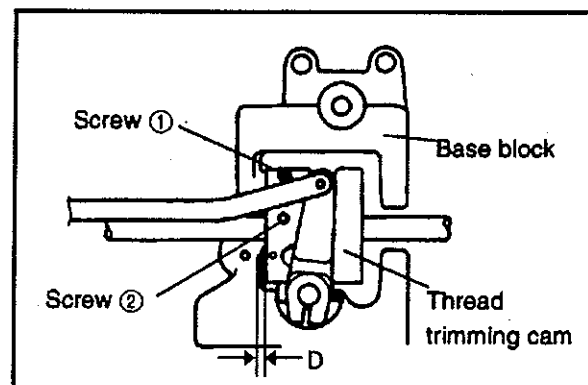

FIG.3
- (2) Rotate the hand wheel forward to bring the needle bar to the bottom dead center.
- (3) Loosen thread trimming cam screw ② and align the timing mark on the thread trimming cam with that on the base block. Tighten screws ② and ① in this order (Fig.3).